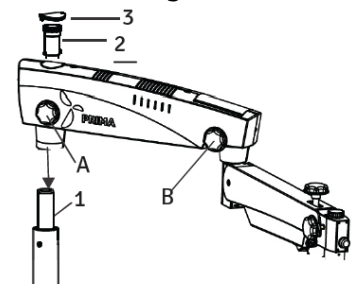

Fig. 38
3. Remove the arm assembly from the box and follow the instructions below (see Fig.38).
Do not unscrew knob A completely. see fig.38. loosen only a few threads; otherwise, the lock ring inside the column guide may disconnect and installation may not possible.
- B. Place the arm assembly on the column shaft (1) shown in Fig. 38.
- C. Screw in the threaded plug from the top (2).
- D. Put the protective cap (3) in place, and loosen the suspension arm locking knob (B) so that it can be rotated.